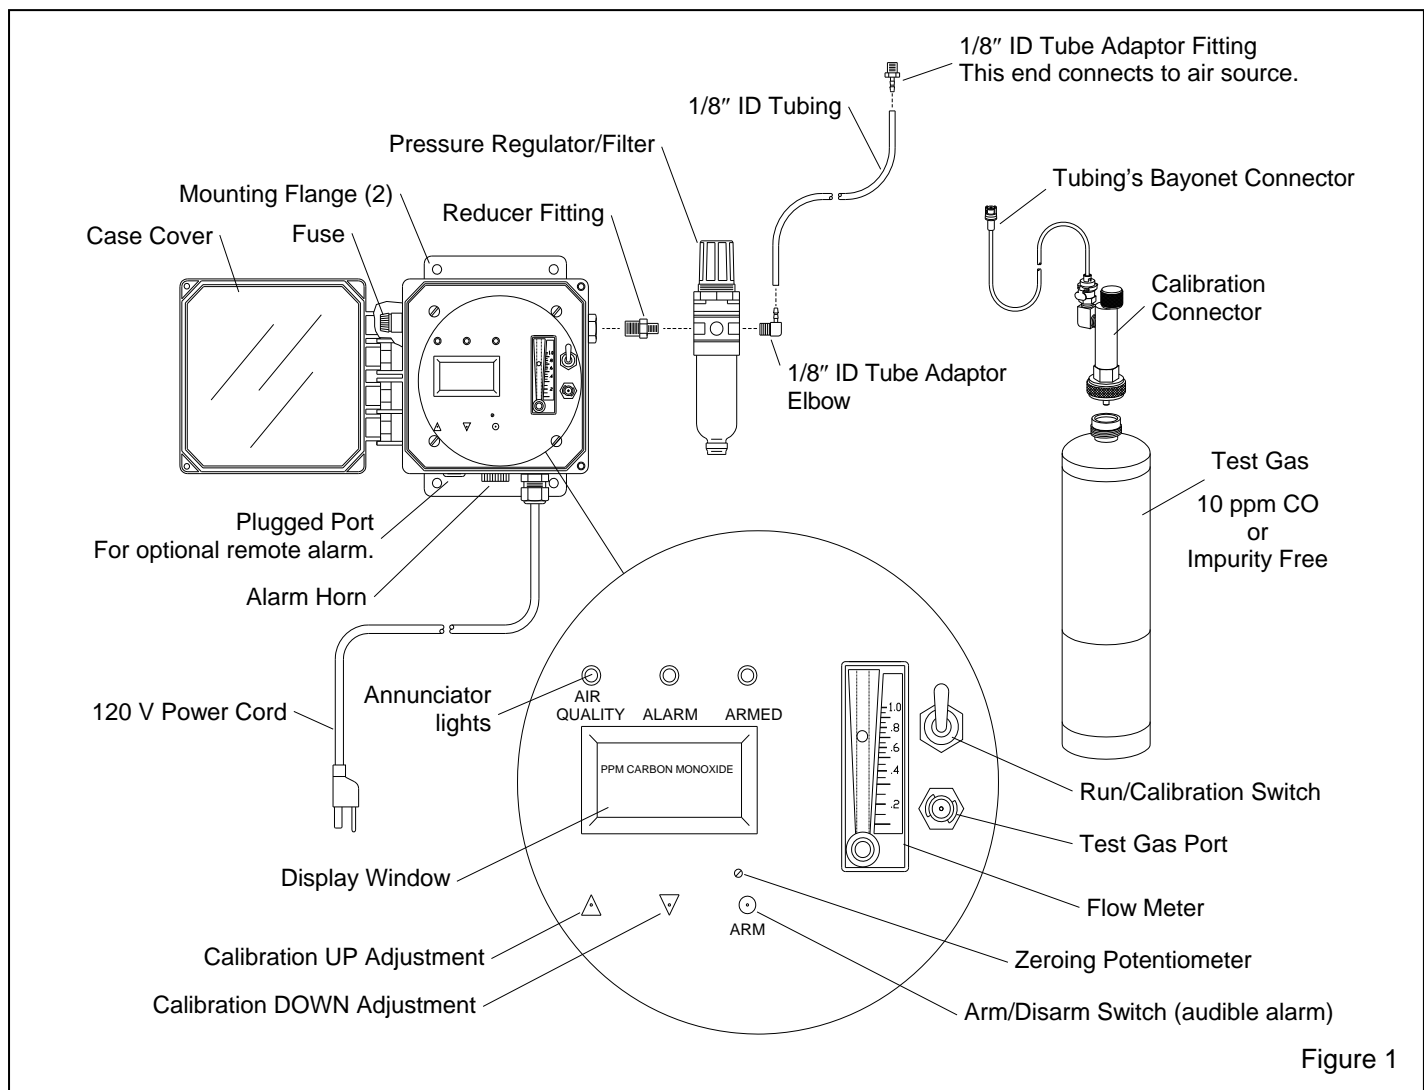

Figure 1
1.4.1 The primary components are shown in Figure 1. The instrumentation is enclosed in a nonmetallic case. The monitor system includes the instrument case,